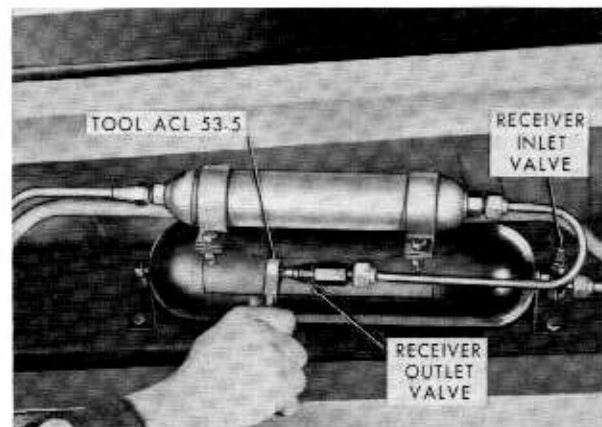

Fig. 7A-4—Closing Receiver Outlet Valve—(4L-715)
2. Turn the stem on the receiver outlet valve clockwise until seated. (See figure 7A-4).